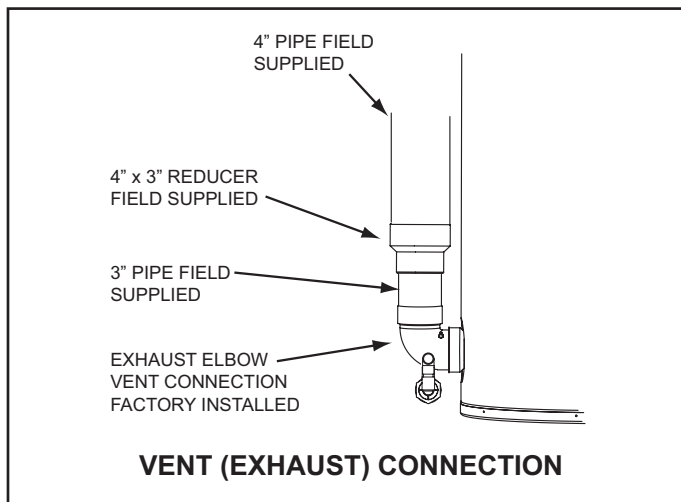

Figure 18
11. If installing 4 inch pipe transition to 3 inch pipe at the exhaust elbow on the water heater as shown in Figure 18. The field installed 3" pipe between the exhaust elbow and the 4" x 3" reducer coupling should be 18 inches (45 cm) or less in length.
12. If installing 4 inch vent pipe transition to 3 inch pipe at the exhaust elbow on the water heater as shown in Figure 18 on page 25. The field installed 3" pipe between the exhaust elbow and the 4" x 3" reducer coupling should be 18 inches (45 cm) or less in length.